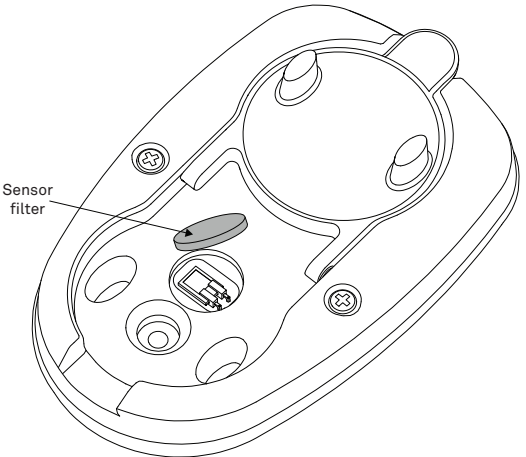

Figure 16 Filter removal
1. To remove the sensor filter use a knife or needle point to gently pry up the edge of the filter (Figure 16).